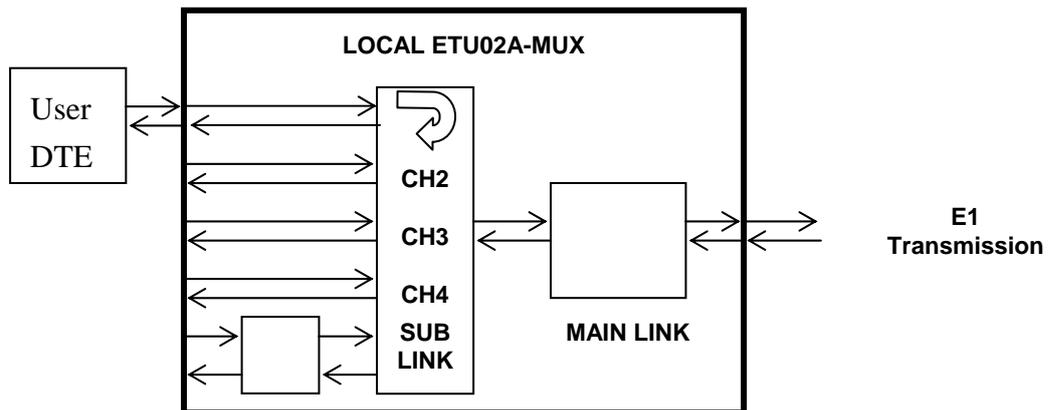

Figure 4-7. Channel local analog loop back
Channel local analog loop back is performed by connecting the data channel transmit data (TD) to the input of the receive path (RD) in analog mode, as shown in Figure 4-7. The test signal is provided by the local DTE.